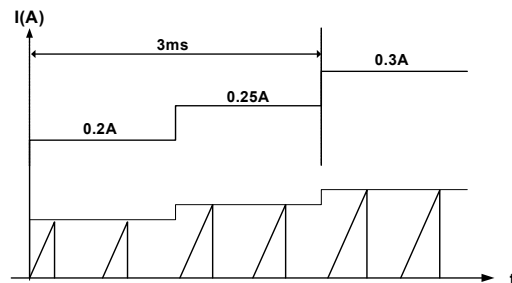

Figure 11. Internal Soft Start
**5. Soft Start :** FSD200B/210B has an internal soft start circuit that gradually increases current through the Sense FET as shown in Figure 11. The soft start time is 3msec in FSD200B/210B.